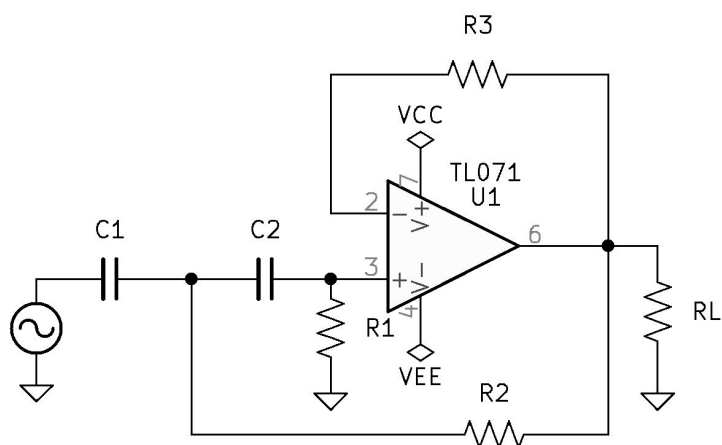

Figure 8.7: High-Pass Second-Order Active Filtering Circuit.
1. See Figure 8.7 *High-Pass Second-Order Active Filtering Circuit* on page 72.